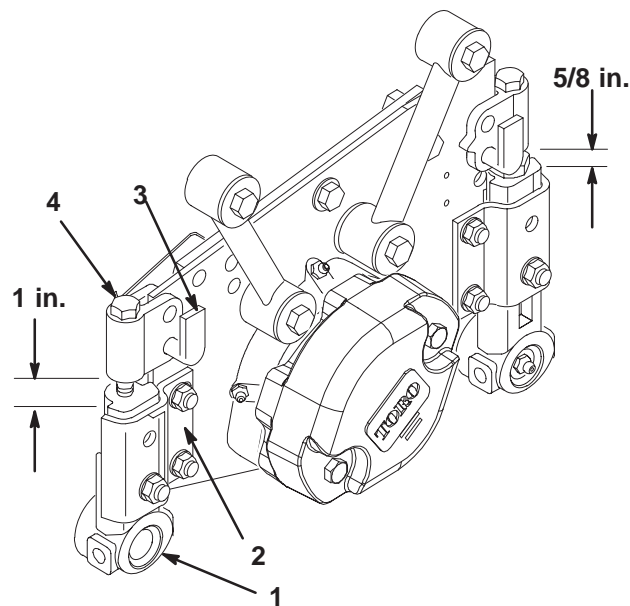

Figure 8
- Adjust support capscrew to achieve 1 in. \pm 1/16 (25mm \pm 1.5mm) dimension between height-of-cut support and front roller bracket (2 places) (Fig. 8).
- Adjust support capscrew to achieve 5/8 in. \pm 1/16 (16mm \pm 1.5mm) dimension between height-of-cut support and rear roller bracket (2 places) (Fig. 8).